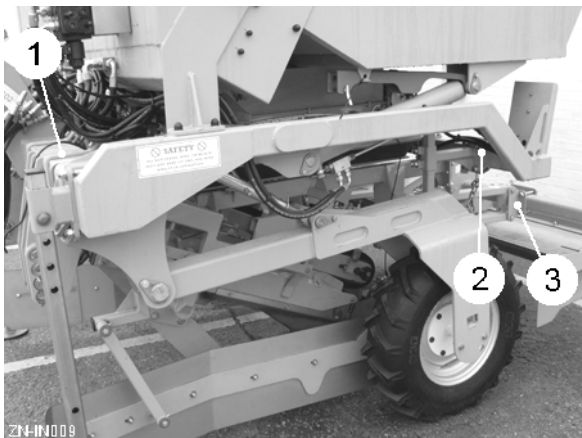

Fig 6
4. Loosen the opener unit front clamps x2 (item 1, fig 6) and the rear clamp plate (item 2, fig 6).
5. Loosen the moulding board / ridger tool bar mounting brackets x2 (item 3, fig 6).